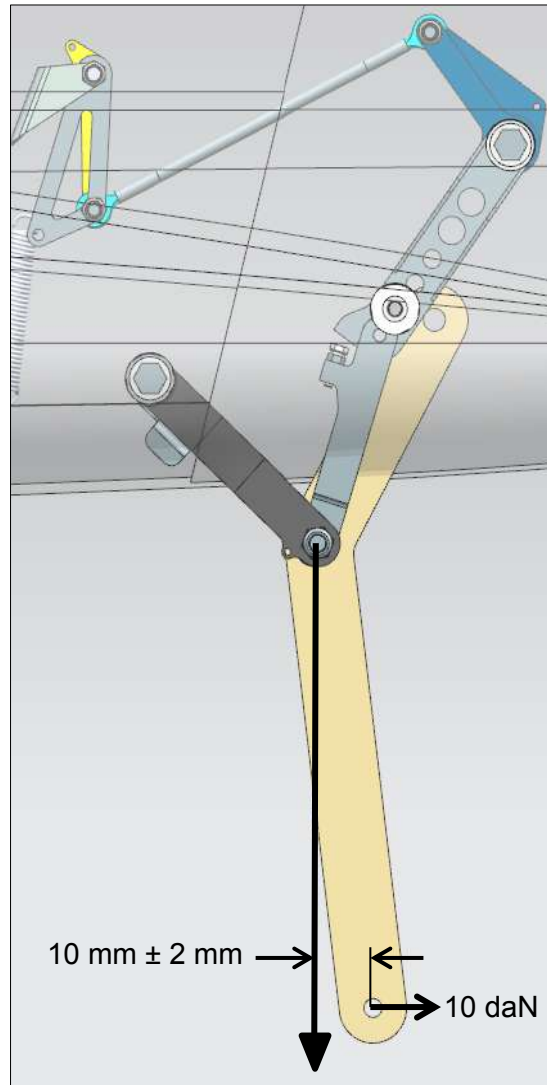

Figure 32-17: Cable tension specification
6. Remove the lock pin to free the wheel. Test the cable tension by pushing rearwards on the lever. A 10 daN (10 kg) force should deflect the lever approximately 10 mm. Tighten the turnbuckle half a turn at time until force requirement is met (Figure 32-17).